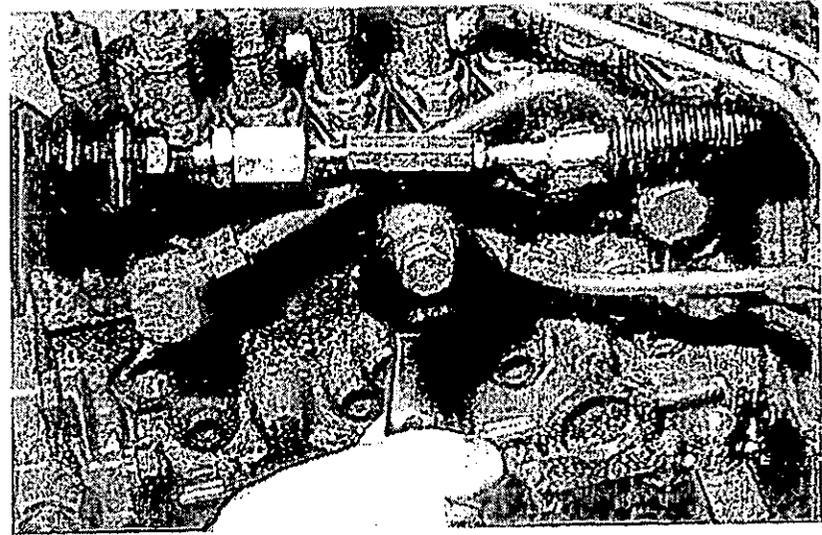

Fig. 26 Bosch in line fuel injection pump vent point
- 3 Loosen the banjo connection bolt for the fuel return pipe of the injection pump (see fig. 26). Operate the priming pump plunger until fuel, free from air, comes from the connection and tighten the banjo connection bolt. Do not remove the plug that is fitted in the end of the banjo connection bolt as this holds a pressure valve in position. If this plug is removed in error, ensure that the valve is fitted correctly with the flat plate toward the pump and the spring around the valve stem.